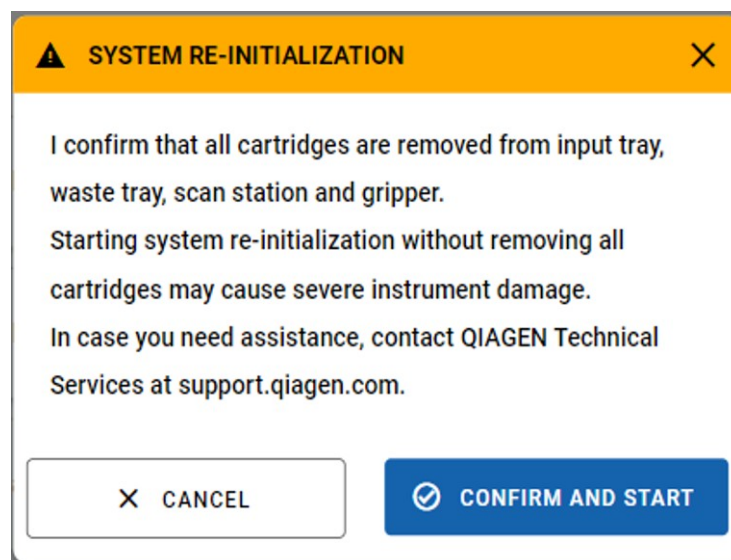

Figure 86. Manual recovery confirmation screen.
7. Ensure that all cartridges except those running in the AMs are removed from the system (Figure 86).